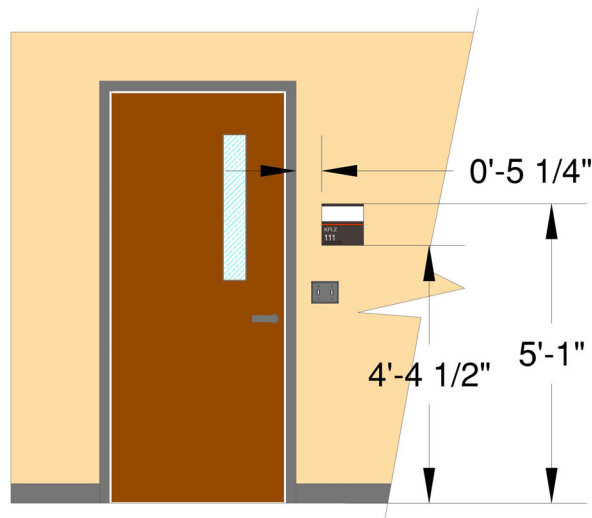

Figure 29.6.1
- 29.6. Room identification sign installation shall comply with figure 29.6.1 and 29.6.2.